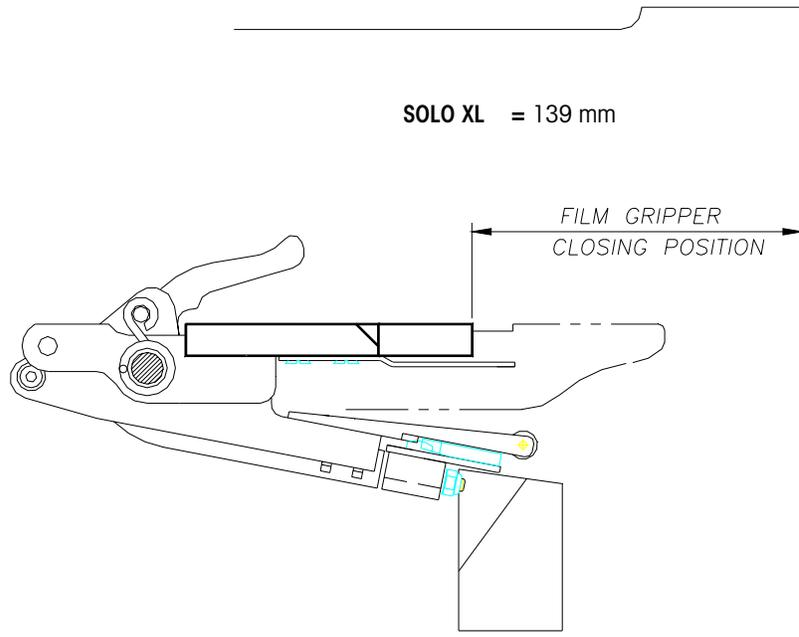

Figure 7-27
5. As a point of reference, the Center Clamp carriage should be 139 mm from the edge of the machine frame at the closing point (See Figure 7-27). Since the gripper cam mount is drilled and pinned, this dimension cannot be changed.